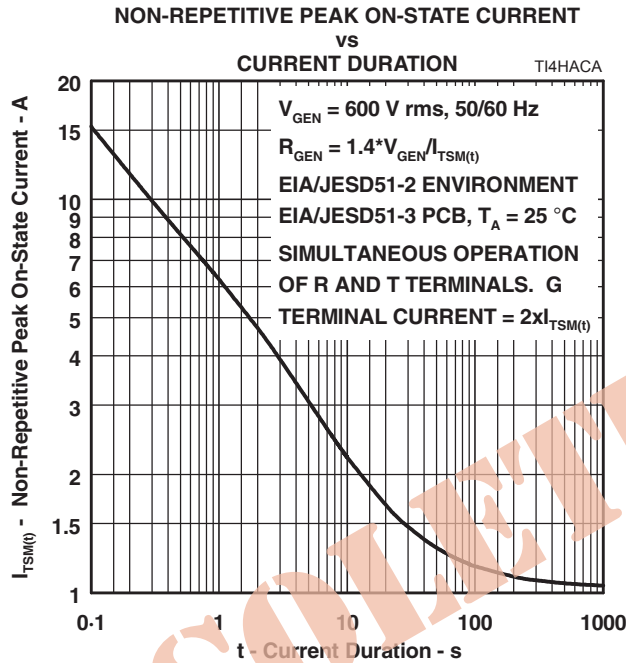

Figure 8.
5. EIA/JESD51-2 environment and EIA/JESD51-3 PCB with standard footprint dimensions connected with 5 A rated printed wiring track widths. See Figure 8 for the current ratings at other durations. Figure 8 shows the R and T terminal current rating for simultaneous operation. In this condition, the G terminal current will be $2 \times I_{\text{TSM}(t)}$, the sum of the R and T terminal currents. Derate current values at -0.61 $\%/^\circ\text{C}$ for ambient temperatures above 25 $^\circ\text{C}$.
The protector can withstand the G return currents applied for times not exceeding those shown in Figure 8. Currents that exceed these times must be terminated or reduced to avoid protector failure. Fuses, PTC (Positive Temperature Coefficient) resistors and fusible resistors are overcurrent protection devices which can be used to reduce the current flow. Protective fuses may range from a few hundred milliamperes to one ampere. In some cases, it may be necessary to add some extra series resistance to prevent the fuse opening during impulse testing. The current versus time characteristic of the overcurrent protector must be below the line shown in Figure 8. In some cases, there may be a further time limit imposed by the test standard (e.g. UL 1459 wiring simulator failure).